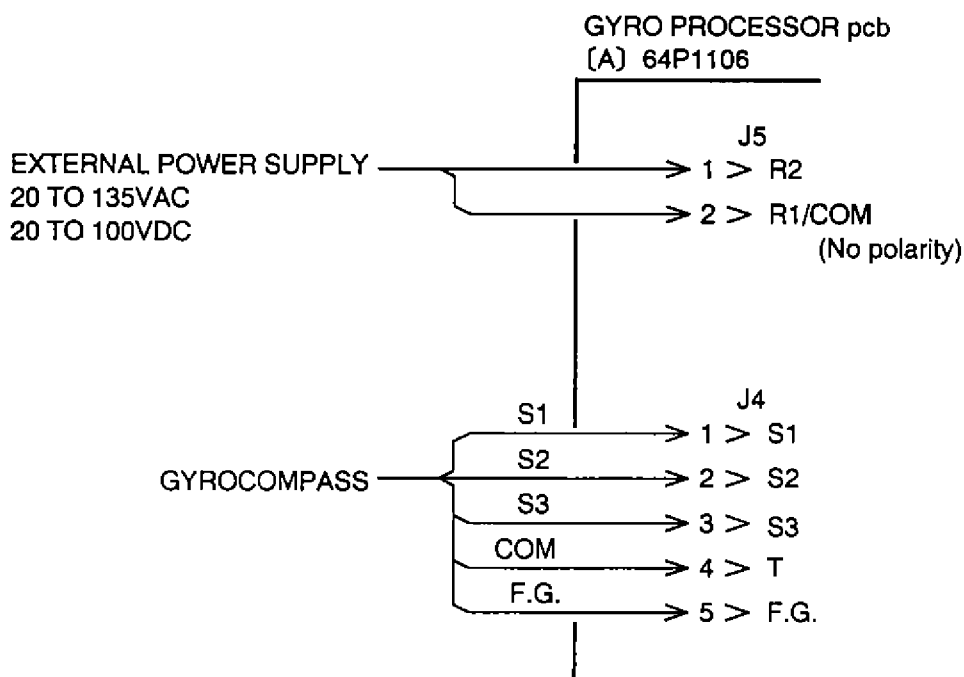

Figure A-1 Connection of external power supply
- Connections** Connect gyrocompass cable and power cable as shown in Figure A-1.